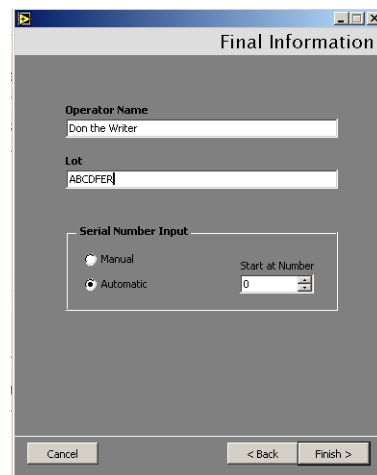

Figure 2-44 Final Information
- ☐ Clicking **Automatic**, which activates the *time* fields to the right. Enter a time and click **Next** and Figure 2-44 appears.